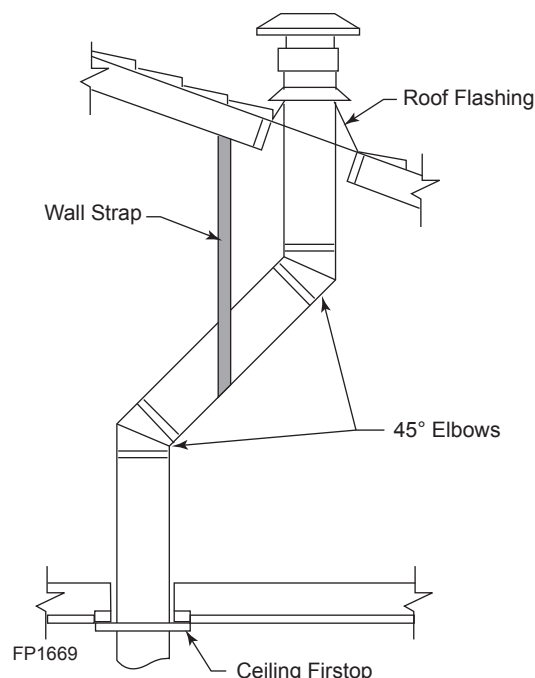

Figure 32 -
1. Determine the route your vertical venting will take. If ceiling joist, roof rafters or other framing will obstruct the venting system, consider an offset. Refer to Figure 32 to avoid cutting load bearing members.
NOTE: If an offset is needed to avoid obstructions, you must support the vent pipe every three (3) feet. Use wall straps for this purpose. Page 23, Figure 32. Whenever possible, use 45° elbows instead of 90° elbows. The 45° elbow offers less restriction to the flow of the flue gases and intake air.